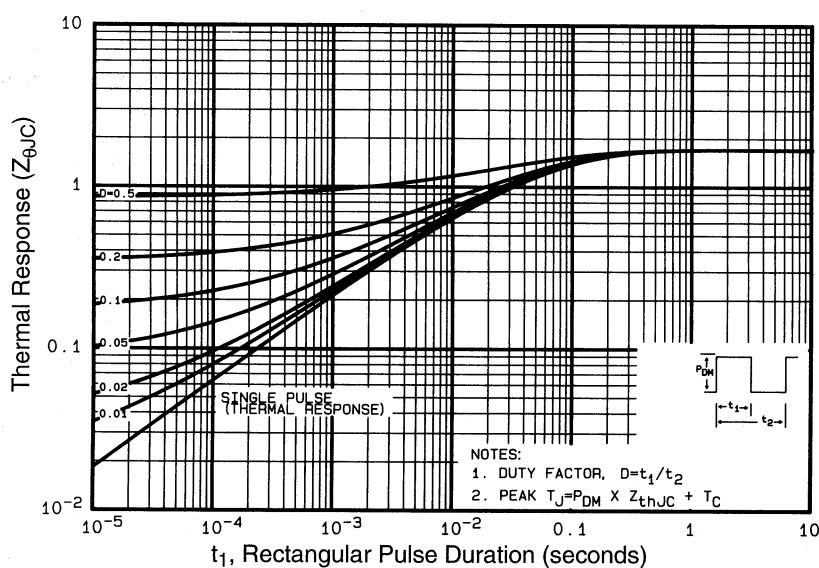

Fig 11. Maximum Effective Transient Thermal Impedance, Junction-to-Case
- ① Repetitive rating; pulse width limited by max. junction temperature. (See fig. 11)
- ② $V_{\text{DD}} = 25\text{V}$, starting $T_J = 25^\circ\text{C}$, $L = 260\mu\text{H}$